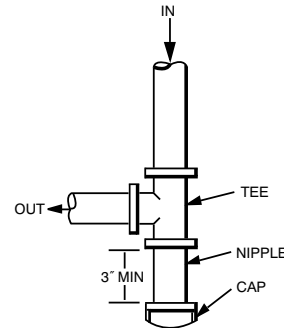

**Fig. 8 – Sediment Trap**
4. Install sediment trap in riser leading to heating section (See Fig. 8). This drip leg functions as a trap for dirt and condensate.